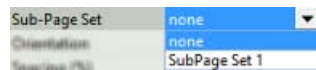

FIG. 114 Sub-Page Set (General) Property - "SubPage Set 1"
2. In the *General* tab of the Properties window, select "Sub-Page Set 1" from the *Sub-Page Set* drop-down menu (FIG. 114):